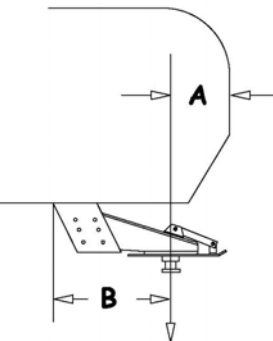

Figure 1
1. As a general rule, for the SuperGlide hitch to maintain proper clearance to the truck, the leading edge of the trailer (measured at the corner) should be even with the center of the king pin. Most truck trailer combinations will allow 102" wide trailers if the king pin is located as described. Narrower trailers will allow the king pin to be "tucked" under the trailer over hang to some extent (Figure 1). Call PullRite technical support with trailer width, make and year of truck and distance the king pin is from leading edge of the trailer (Dimension "A"). 1-800-443-2307
2. Using a trailer that has a long rear slope to the King Pin Box Hangar, "B" in (Figure 1), may cause damage to the trailer or truck bed during turns. Dimension "B" must be less than one half the width of the inside top edges of the bed. Please call PullRite technical support, 1-800-443-2307, if more information concerning this problem is needed.